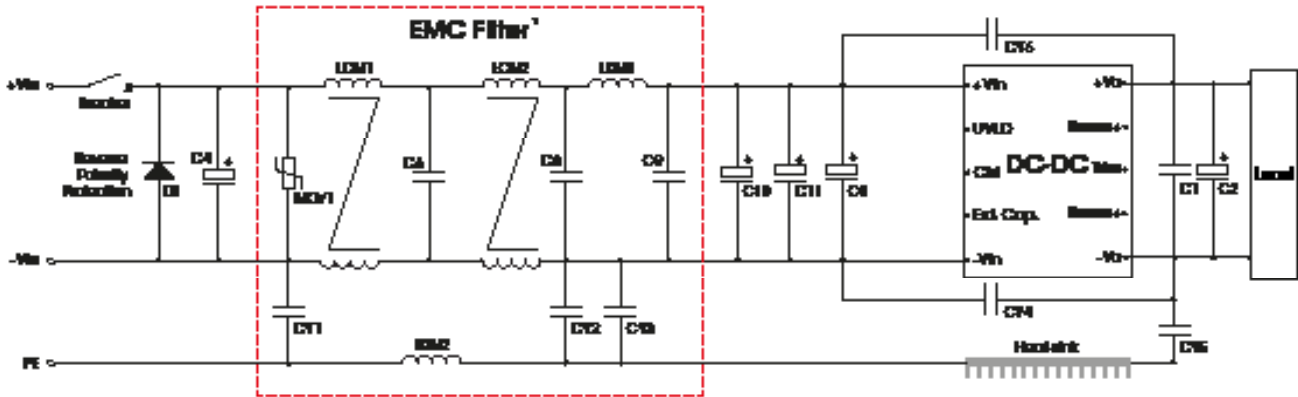

Figure 9. Recommended EMC Filtering
2. EMC Filter will be provided in a modular form, here is a recommended circuit and parameters, as shown in Fig. 9. Users can also build it themselves.